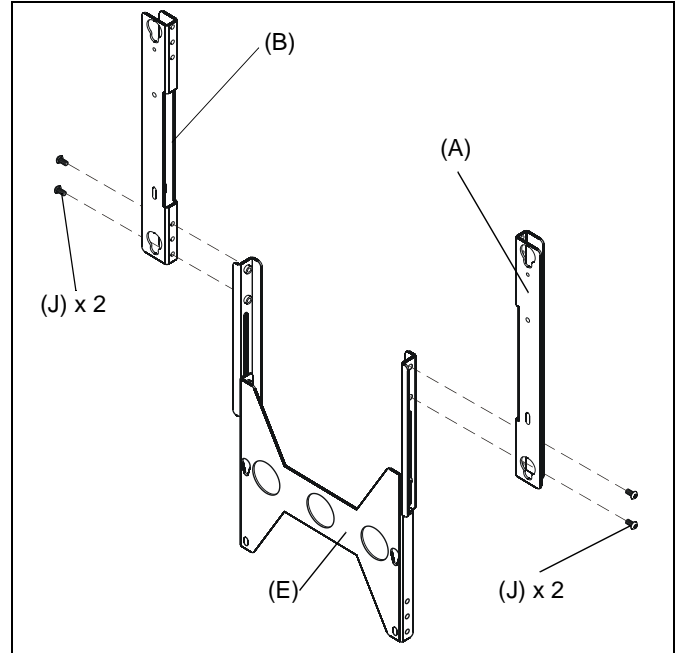

Figure 2
1. Assemble L.H. speaker mounting bracket (A) to L.H. bottom speaker mounting bracket (D) using two 1/4-20 x 1/2" button head cap screws (J). (See Figure 2)
2. Assemble R.H. speaker mounting bracket (B) to R.H. bottom speaker mounting bracket (C) using two 1/4-20 x 1/2" button head cap screws (J). (See Figure 2)